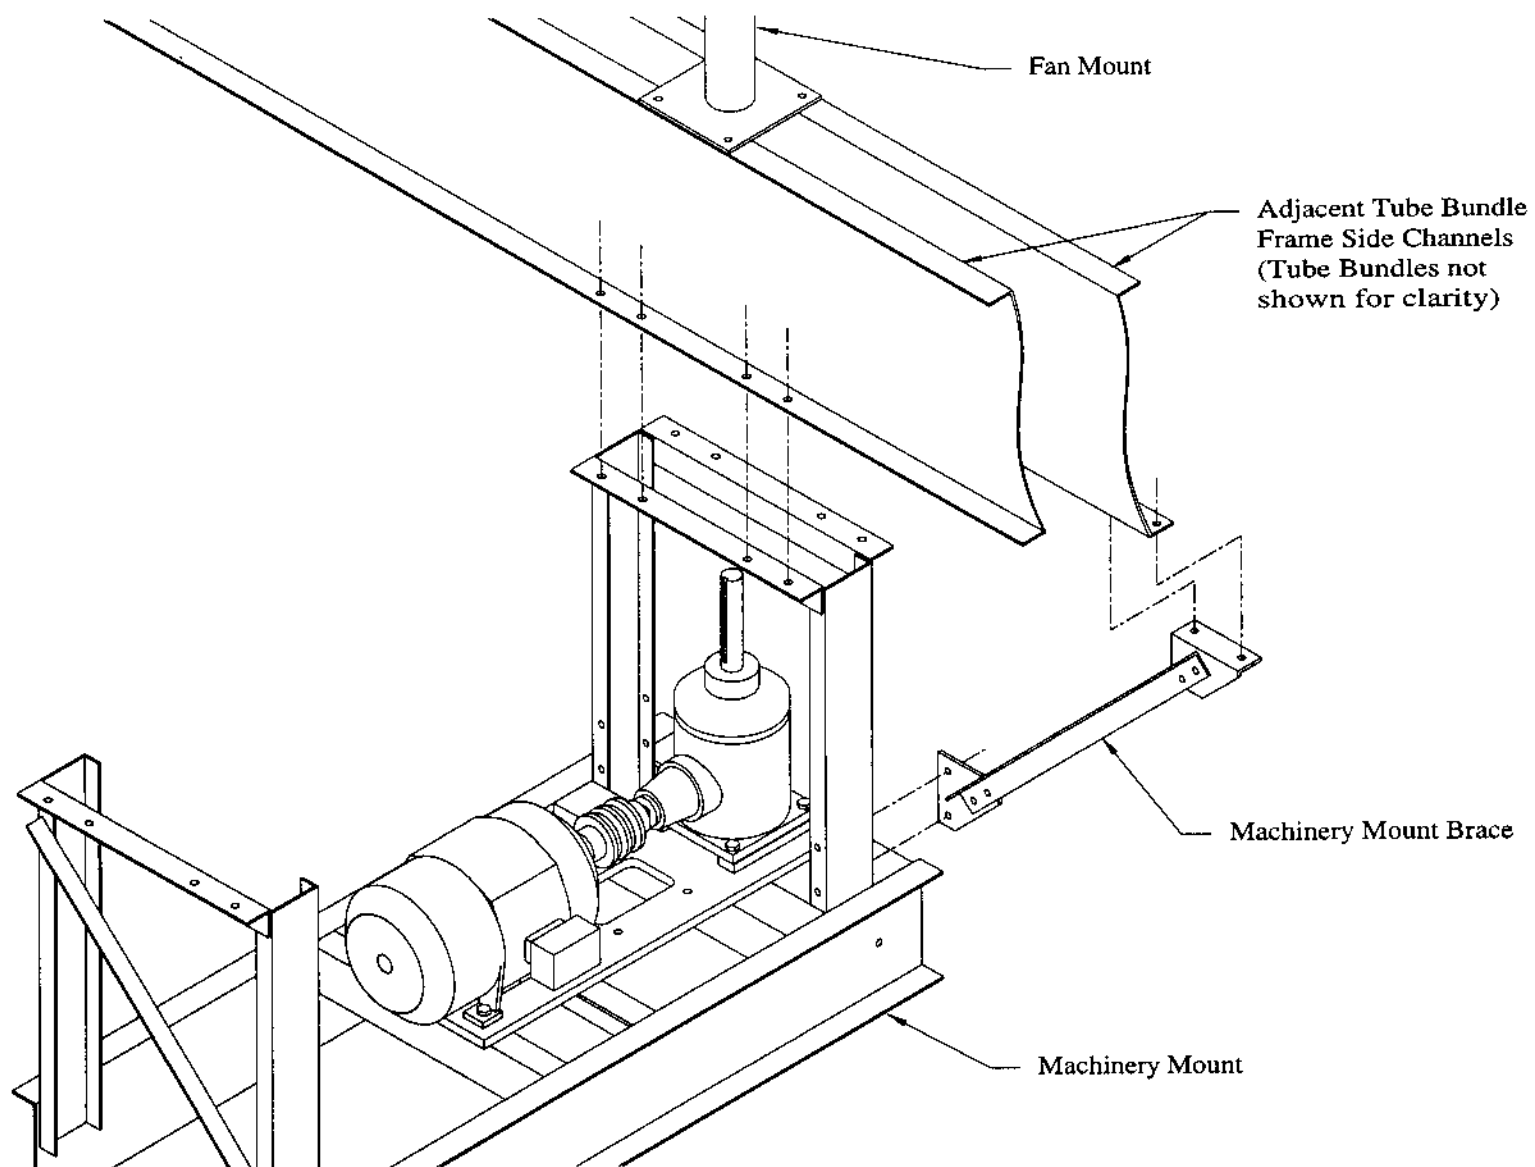

FIG. C4 - MULTI-BUNDLE MACHINERY MOUNT
5. For units in which the fan shaft runs between two bundles, attach machinery mount brace to machinery mount and tube bundle frame. See Fig. C4.